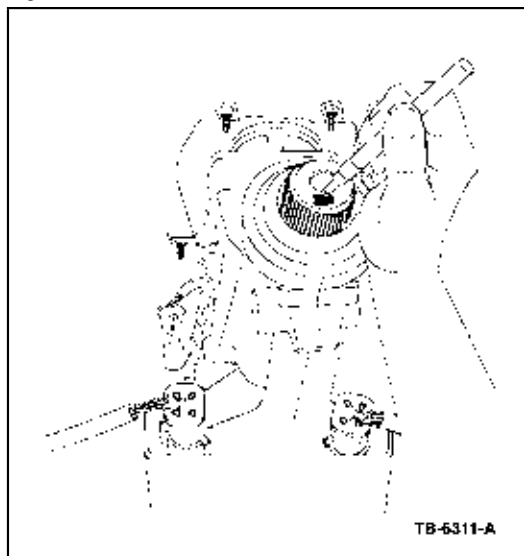

Figure 5 - Article 01-8-3
5. Use a paint pencil or office correcting fluid (White-out) to paint a reference mark at the end of the transmission output shaft at the 6 o'clock position and allow a few minutes to dry (Figure 5).